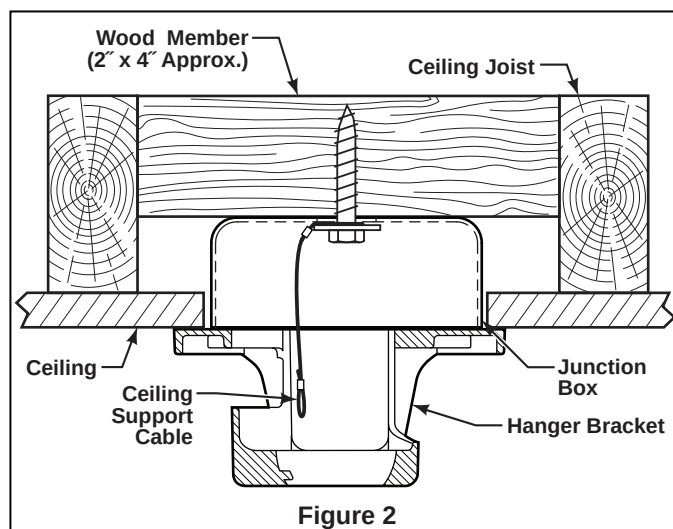

Figure 2
1. Using the $\frac{3}{8}$ " x 2" lag bolt and flat washer, attach safety cable to ceiling joist or wood structural member. The lag bolt will pass through the flat washer, safety cable loop, the junction box and into the building structure (Figure 2). You will first drill a $\frac{1}{4}$ " pilot hole into the building structure to prevent splitting or cracking.
NOTE: Ceiling support cable cannot be secured to junction box only, it must be directly secured to ceiling joist or structural member using the $\frac{3}{8}$ " x 2" lag bolt and flat washer. (Figure 2).